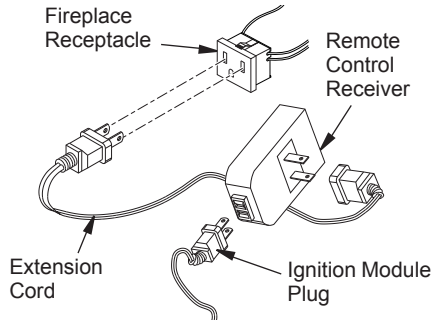

Figure 47 - Installing the WRC Remote Receiver
2. WRC model receiver does not require a battery. Receiver can be installed by first plugging short extension cord into fireplace receptacle. Plug receiver unit into extension cord. Finally plug ignition module plug into receiver unit (see Figure 47).